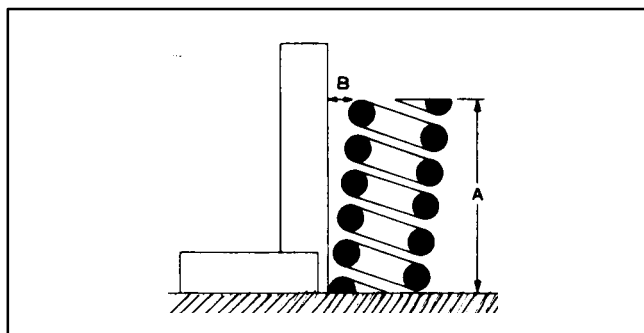

FIGURE 10-9. VALVE SPRING CHECKS
Springs: Check the valve springs for cracks, worn ends, and distortion. If the spring ends are worn, check valve retainer for wear. Check for spring distortion by placing the spring on a flat surface next to a square. Measure the height of spring (A) and rotate it against a square to measure distortion (B), see Figure 10-9. Replace any valve spring that is weak, cracked, worn, or distorted.